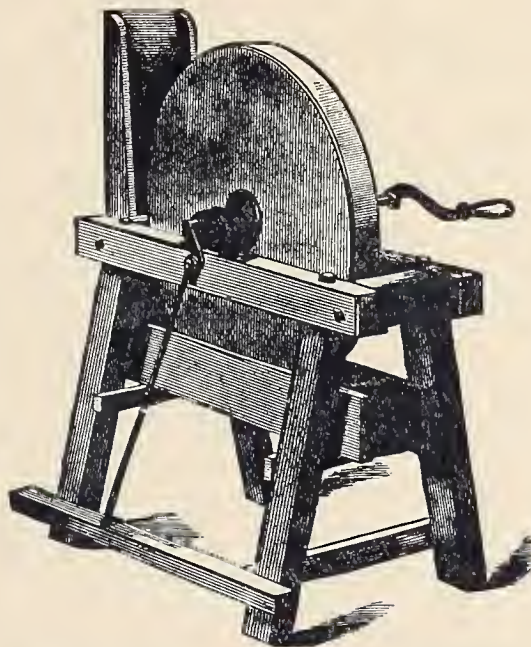

Fig. 480. — Mounted Grindstones.
*The Mounted Grindstone*, represented by *Fig. 480*, is arranged for use either by crank or treadle. We use the best quality stone, and can furnish any size, from eighteen inches diameter upwards.